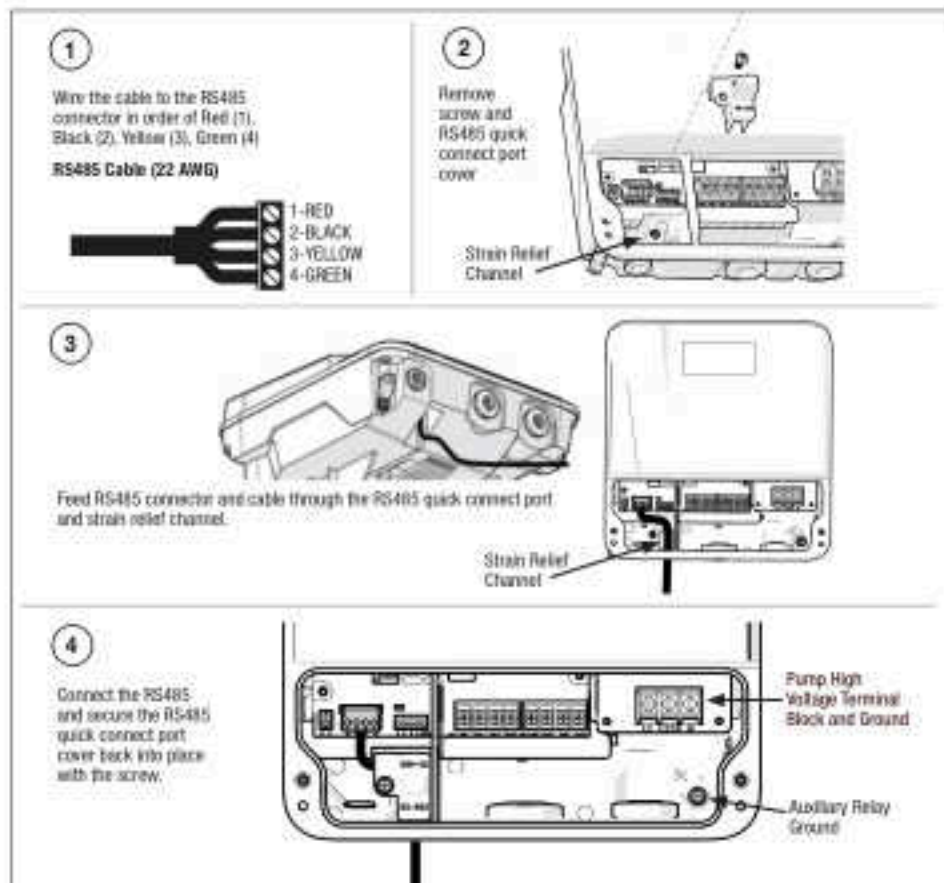
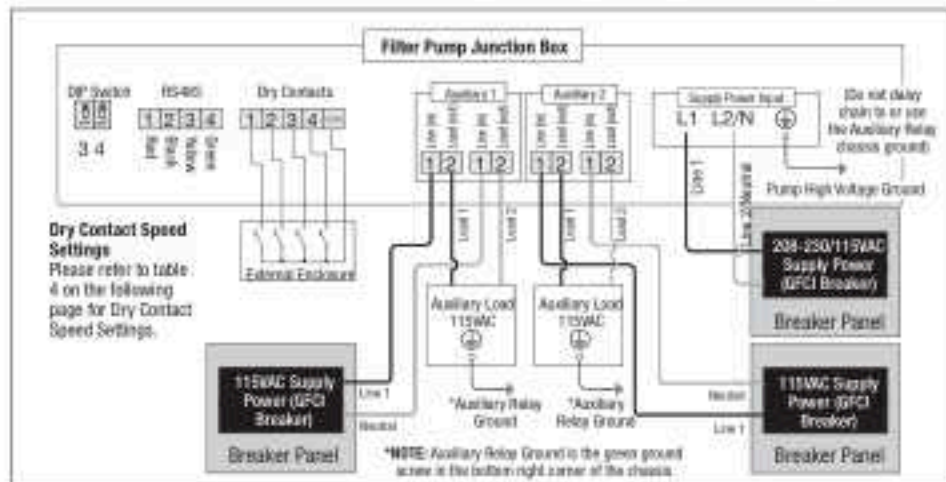

Figure 8. RS-485 Quick Connect Port with Wiring
Figure 13. 115V Auxiliary Relay Wiring Diagram*
- RS-485 quick connect port (see Figure 8)
1. Ground the pump using the green ground screw provided on the high-voltage terminal block. Do NOT ground or daisy chain the ground wire to the secondary green ground screw or daisy chain to on the wiring compartment chassis (see Figures 8 and 12). Also do not ground to a gas supply line.
- NOTE:** When power alone is supplied to this pump, it will not operate. It requires a digital command sent to it by either a variable speed controller (SpeedSet, JEP-R, or JCPUMP01), an automation system, or use of the dry contacts (See Figure 8 and Figure 9 for RS485 wiring illustrations for a local controller or automation system. See Figure 12 and Figure 13 for dry contact wiring illustrations).
See Figures 8, 12 and 73 for compartment details and location of the auxiliary relays and wiring illustrations.